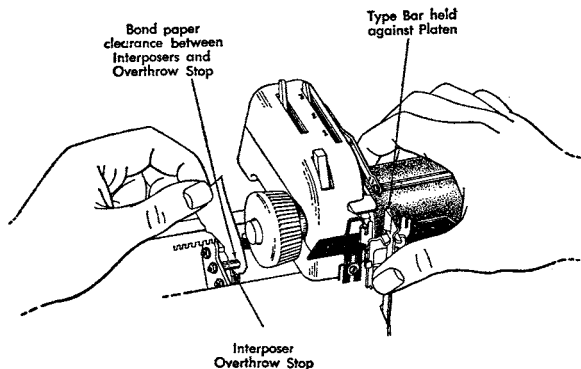

Figure 12. Interposer Overthrow Clearance
12. INTERPOSER OVERTHROW STOP. Adjust so that by holding a typebar against the platen, a clearance the thickness of bond paper will be visible between the interposer and the overthrow stop (Figure 12). Test several typebars for this condition.